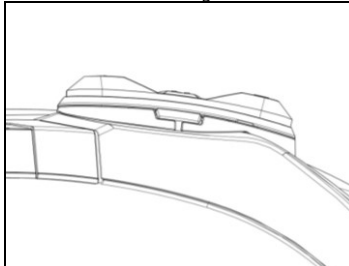

Fig. 21
- Hook up the keypad to the helmet by clicking in the relevant hooks (Fig. 21).